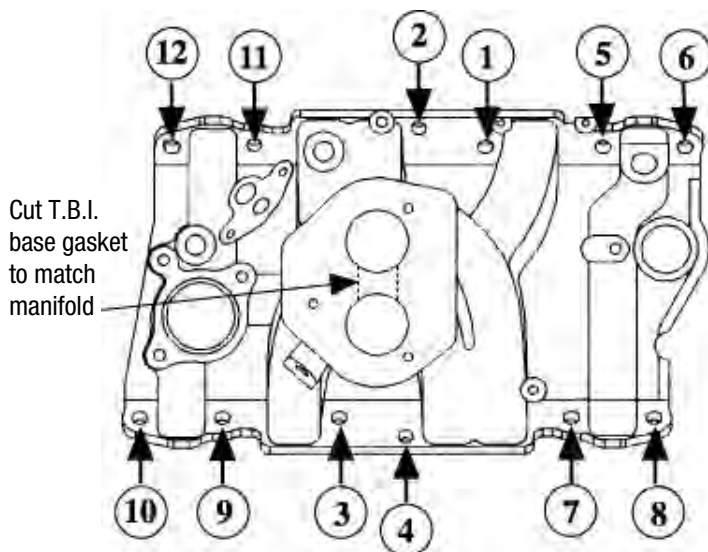

Figure 1
Torque all bolts circled in Figure 1 to 25 ft./lbs. See Figure 1 for proper sequence.
3. Cut the T.B.I. base gasket to match the manifold (see Figure 1).